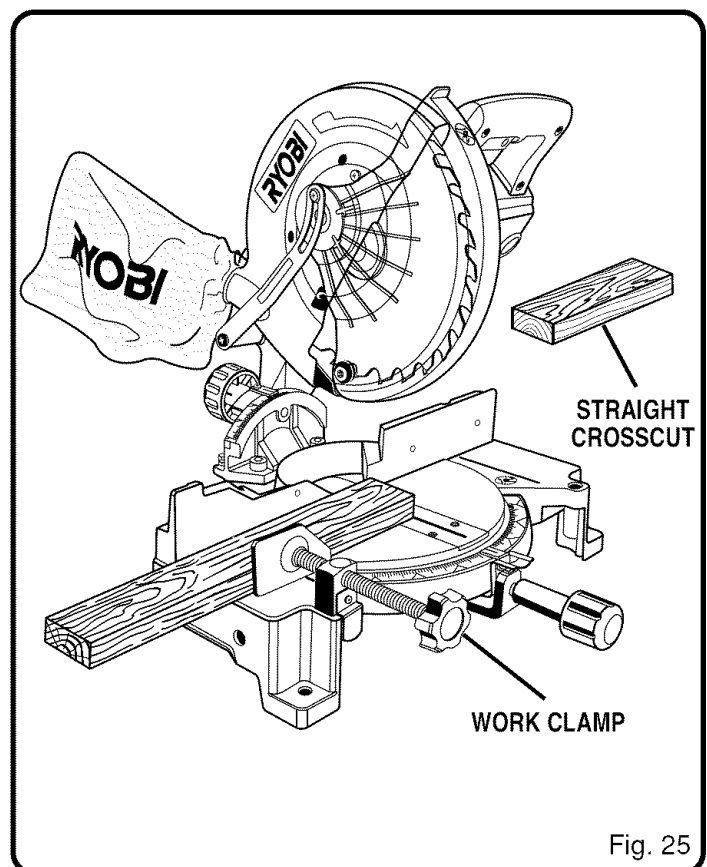

Fig. 25
See Figure 25.
- Grasp the stock firmly with one hand and secure it against the fence. Use the optional work clamp or a C-clamp to secure the workpiece when possible. See Figure 25.
- Slowly lower the blade into and through the workpiece. See Figure 25.